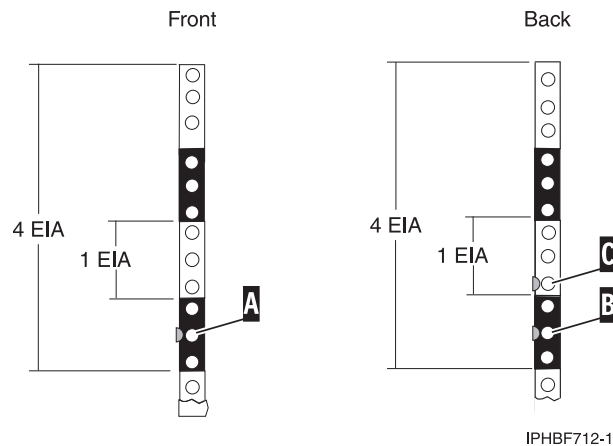

Figure 42. Marking holes on the front and back of the rack frame
2. Face the front of the rack and work from the right side of the rack. Mark the middle hole of the bottom EIA unit (**A**) in Figure 42. Identify the marked hole from both the front and back of the rack.
5. Mark the middle hole of the bottom EIA unit. See **B** in Figure 42.
6. Mark the bottom hole of the next (higher) EIA unit. See **C** in Figure 42.